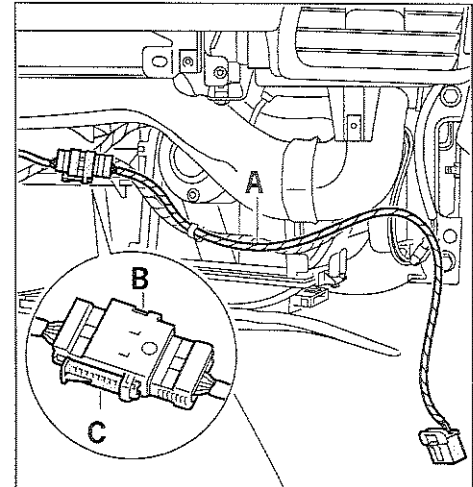

Figure 14
6.2.1 Route electric wire for key-operated switch "Airbag Auto/OFF" ⇒ *Figure 14 -A-* from the airbag connector ⇒ *Figure 14 -B-* to the right-hand side of the dashboard and secure it with tie-wraps.
6.2.2 Connect and lock electric plug connection for airbag connection point. ⇒ *Figure 14 -C-*.